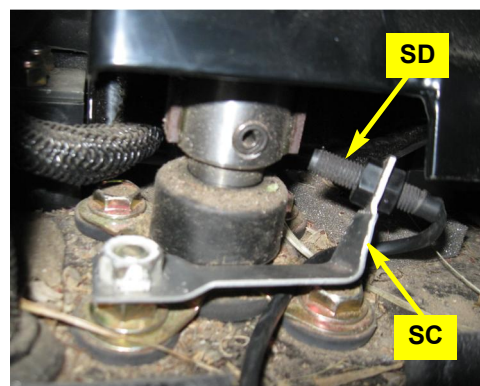

Figure 3b: Installed switch bracket and switch
- b. Install switch **SD** in bracket **SC** and use the switch nuts to set the sensor face to 1/8" to 1/4" from the magnets (Figure 3b). Drop **SD**'s cable down the ledge at the front of the floor and refit the floor mat.